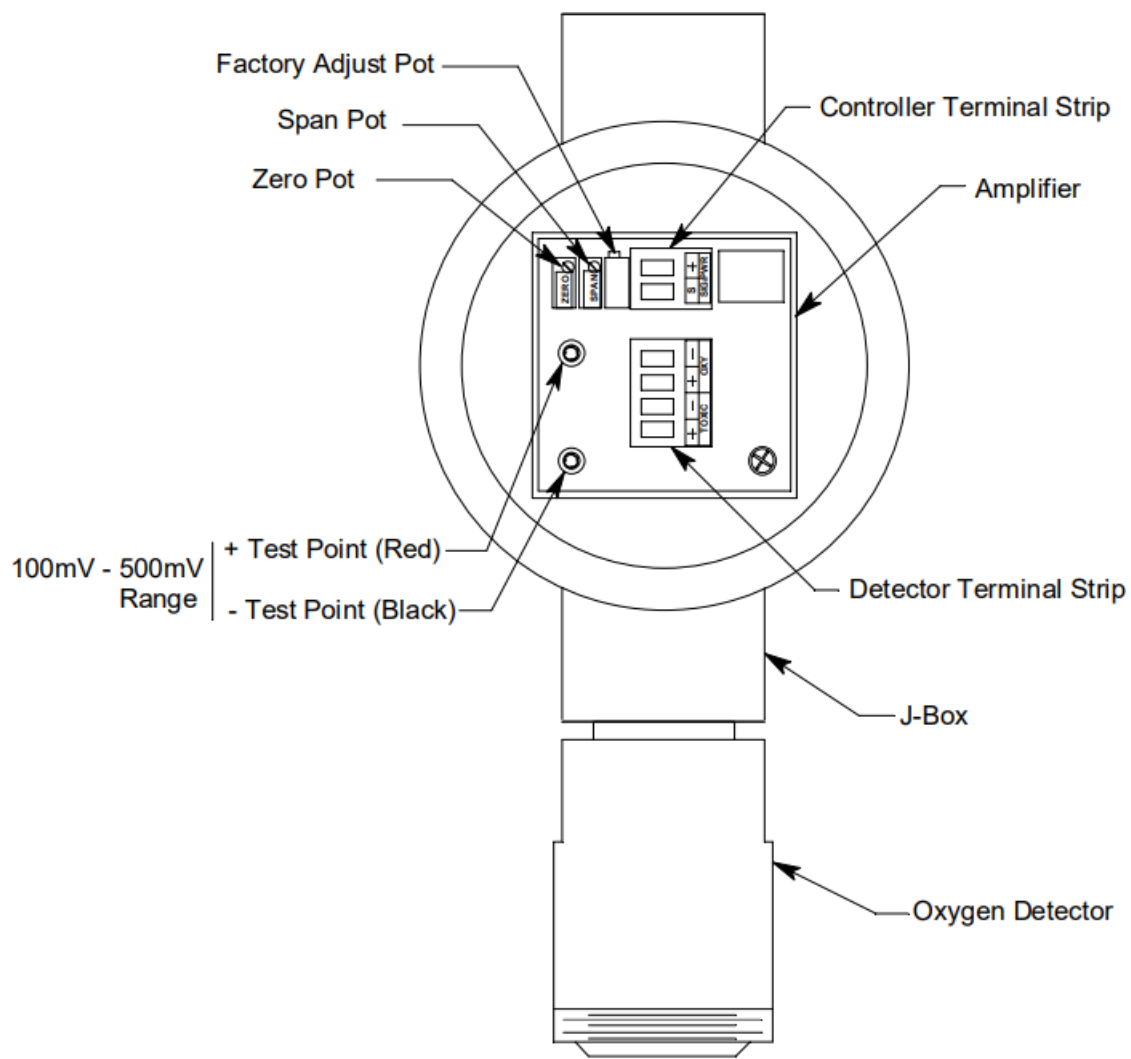

Figure 1: Oxygen Transmitter Component Location
- The amplifier converts the electrical output from the detector to a 4 to 20 mA signal that corresponds to the detection range and transmits the signal to a gas monitoring controller. A foam gasket that orients the amplifier and keeps it from rotating is installed on the bottom of the amplifier. The amplifier includes the controller terminal strip, detector terminal strip, zero pot, span pot, and test points (see Figure 1).
- The zero pot is located in the upper left corner of the amplifier (see Figure 1). Use a small flat blade screwdriver to turn the zero pot's adjustment screw and adjust the amplifier's zero (oxygen free) output during the calibration procedure. Turn the adjustment screw clockwise to increase the zero output and counterclockwise to decrease the zero output.
- The span pot is located to the right of the zero pot (see Figure 1). Use a small flat blade screwdriver to turn the span pot's adjustment screw and adjust the amplifier's fresh air output during the start up and calibration procedure. Turn the adjustment screw clockwise to increase the fresh air output and counterclockwise to decrease the fresh air output.
- The test points are on the left side of the amplifier (see Figure 1). The test points produce a 100 mV to 500 mV output that corresponds to the transmitter's 4 to 20 mA output. Use the test points and a voltmeter to measure the amplifier's output during the start-up and calibration procedures. The black test point in the lower left corner is the negative (-) test point and the red test point below the zero pot is the positive (+) test point.